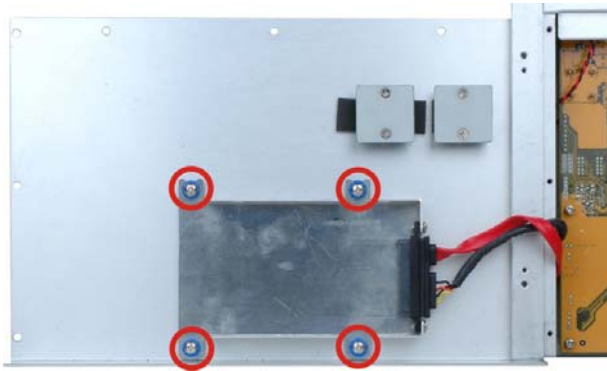

Figure 3-4: HDD Bracket Retention Screws
Step 3: Remove the four HDD bracket retention screws (**Figure 3-4**) and lift the HDD brackets out of the TANK-GM45.